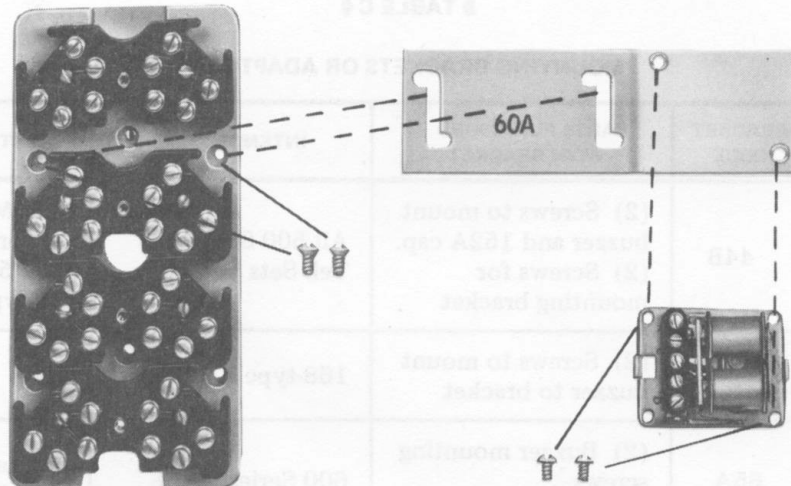

Fig. 16—60A Bracket
1. The mounting screws used to secure the 168-type backboard also hold the 60A bracket (Fig. 16).